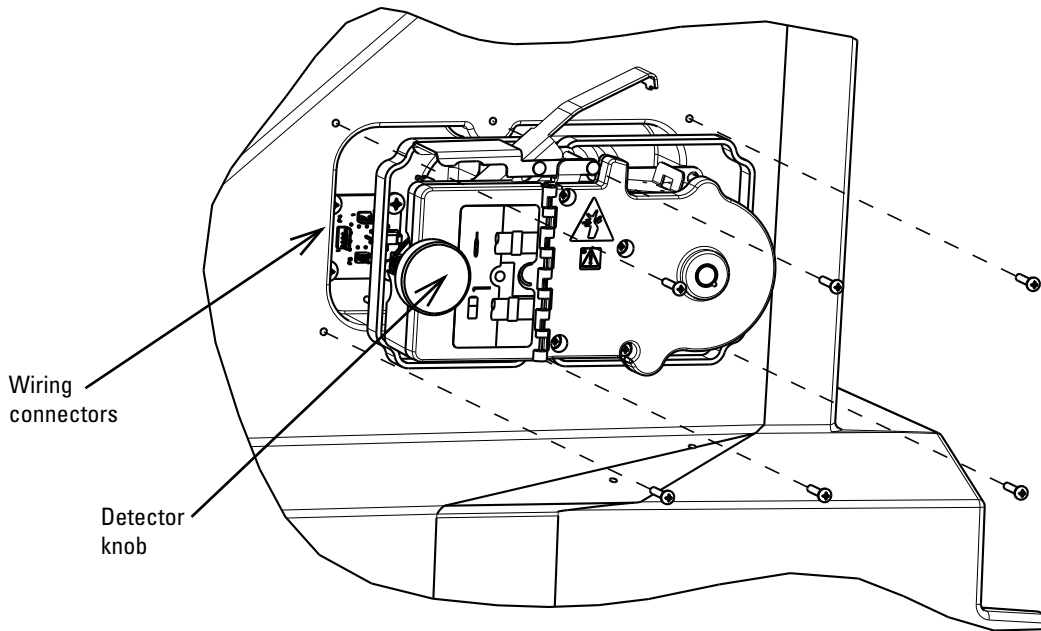

Figure 2: Pump module removal and replacement
2. Beginning with the three bottom screws, remove the six mounting screws (see Figure 2), holding